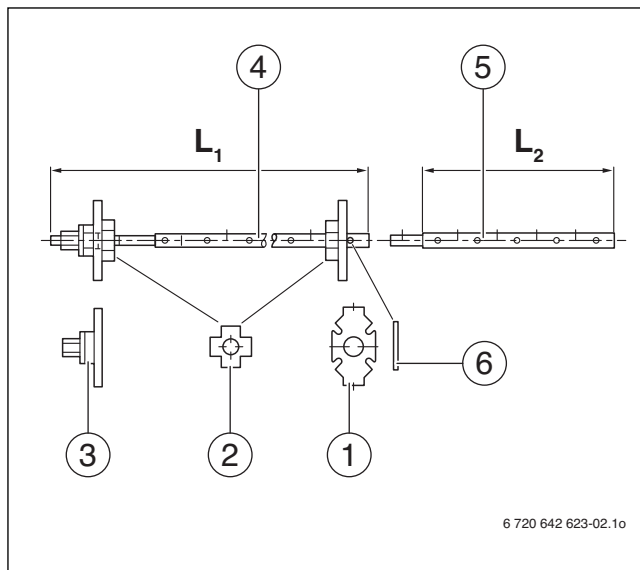
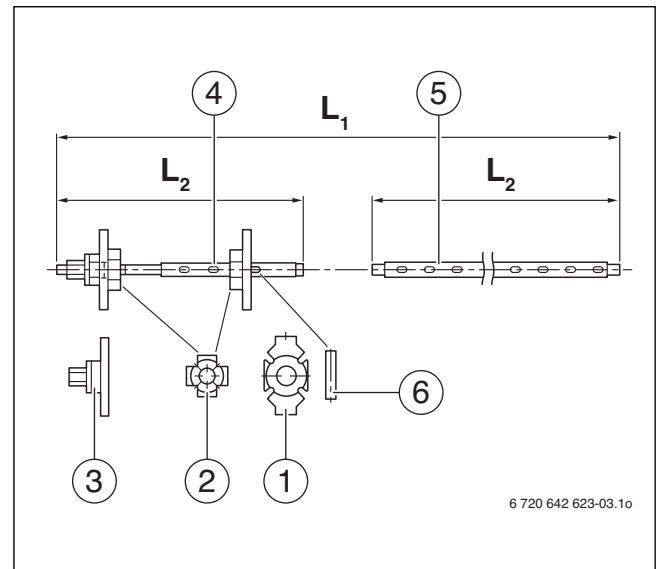

Fig. 4 Boiler assembly tool size 2.2
Fig. 5 Boiler assembly tool size 2.3
- Boiler assembly tool 2.2 (→ Fig. 4, page 11) or 2.3 (→ Fig. 5, page 11)